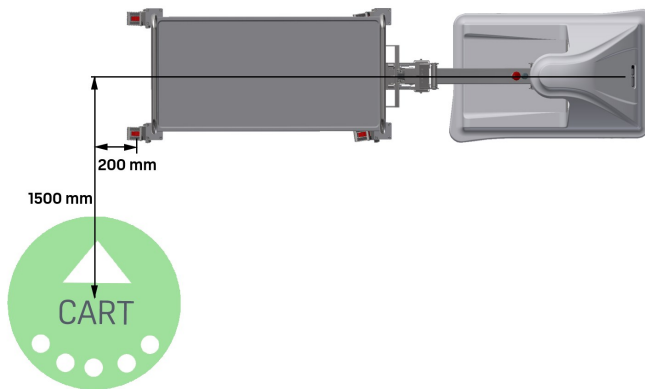

Figure 5.7. Position of the robot and cart before it parks to the cart position.
- The robot moves to a position where the distance from the center of the cart position and the robot's center line is 1500 mm. The robot should also be oriented perpendicular to the direction of the cart position (see *Figure 5.7*).
- The robot checks if the placement space is free and then moves with the cart so that the fixed wheels on the cart are 200 mm from the center line in the placement position (see *Figure 5.7*).